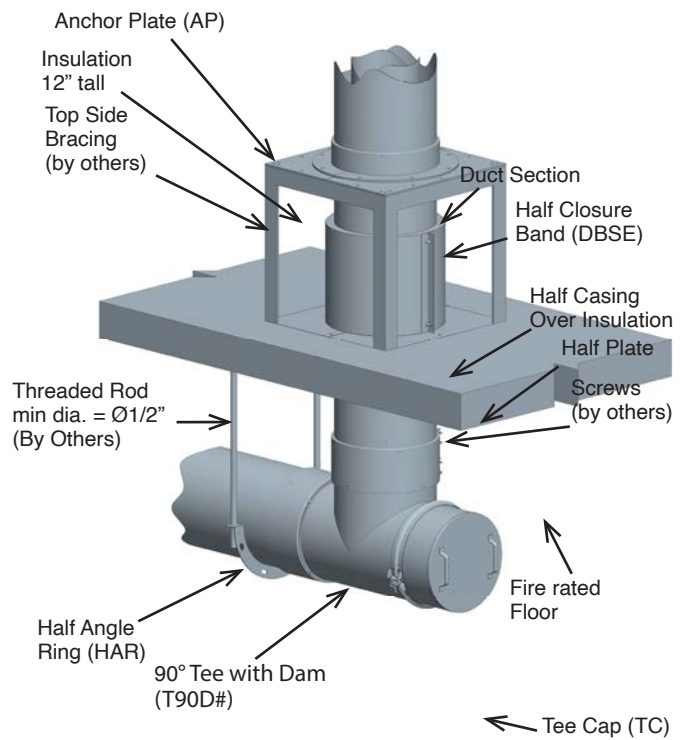
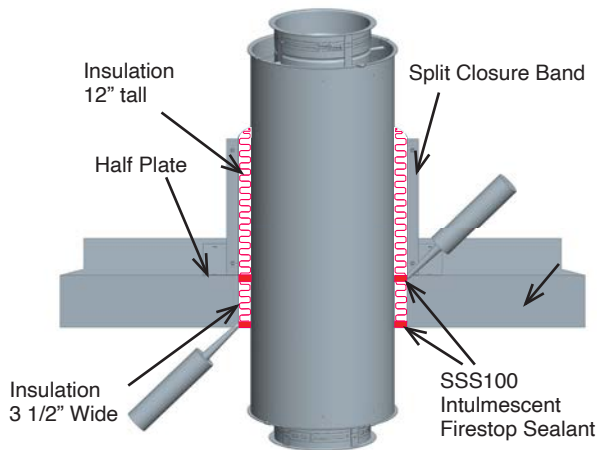

Figure 107: Supports for Duct passing through a fire-rated Floor-Ceiling (CIX3Z only)
Figure 109: Through Penetration Firestop fire-rated Floor Penetration (CIX3Z only)
Supports for ducts that penetrate a fire-resistant floor are to be positioned on the top side of the floor. Includes supports as per the height limits in Table 5 and use either an Anchor Plate (AP) or an Anchor Plate with Length (APL) installed above structural framing members as shown in Figure 107. Where a transition from horizontal to vertical occurs beneath a floor/ceiling assembly, support the horizontal portion beneath the floor using Half Angle Rings (HAR) with a minimum 1/2" dia. threaded rod. Install one HAR on the section adjacent to the Tee and include additional Half Angle Rings (or other, appropriate supports) for the horizontal portion of the system in accordance with Table 7.
NOTE:- For Floor Penetration, use one TPFK. See Figure 109 and Figure 107.
4. Apply a minimum 1/2" depth of S-TPFS (SSS100 from SpecSeal), flush with both surfaces of the wall. See Figure 109.